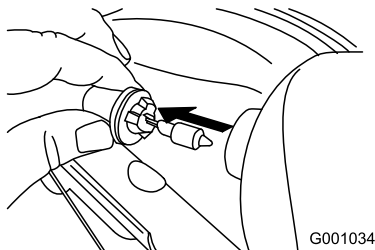

Figure 62
3. Remove the bulb straight out from the back of the headlight (Figure 62).